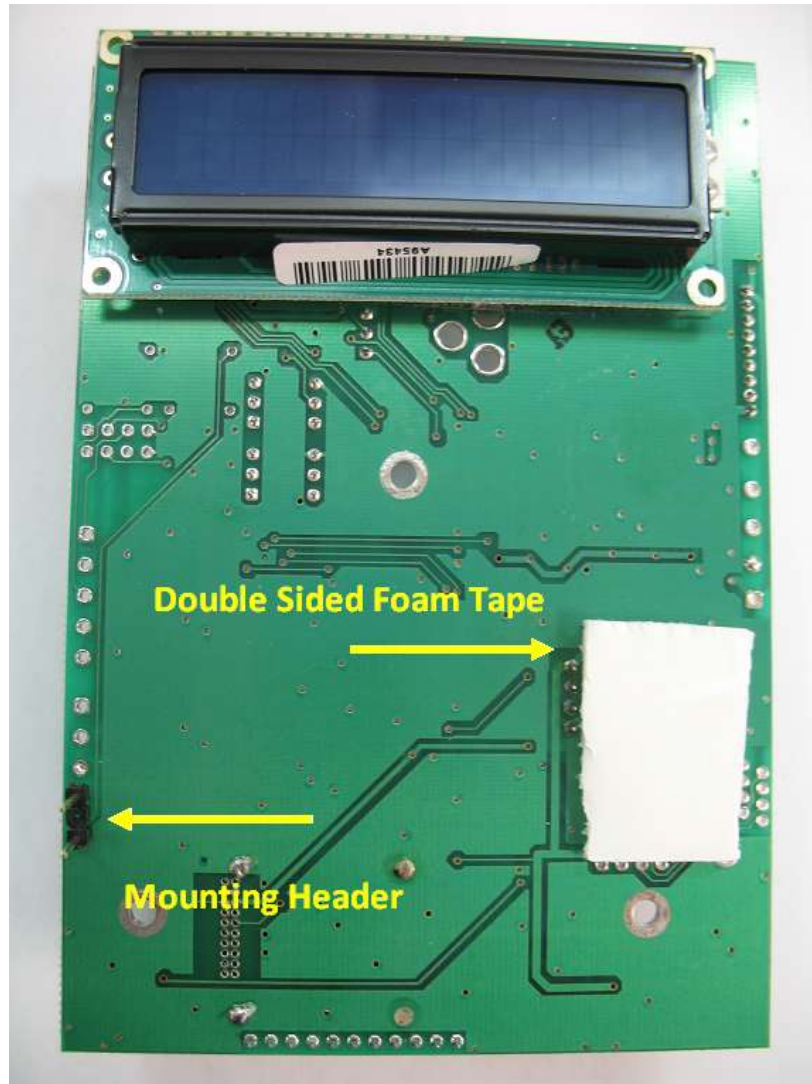

Figure 1.
2. Solder the header into the pins shown in Figure 1 on the solder side of the Series 500 main PCB. It will be necessary to slightly adjust the spacing of the pins. Note this header is used only for mechanical fastening. There is no electrical connection.
4. Place double sided foam at the location indicated in Figure 1.